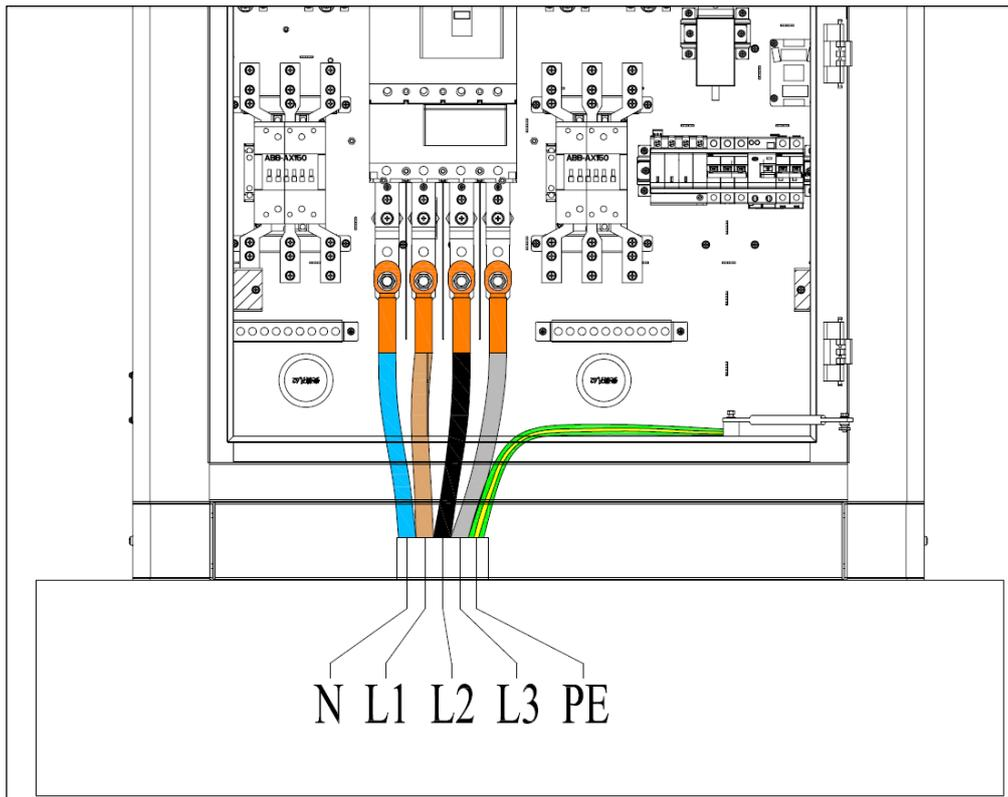

Figure 3.4.4
- Fix the cable lug on the copper bar with the screw of M12, the torque is 25-30N·m, and the force is calibrated, as shown in **Figure 3.4.4**.